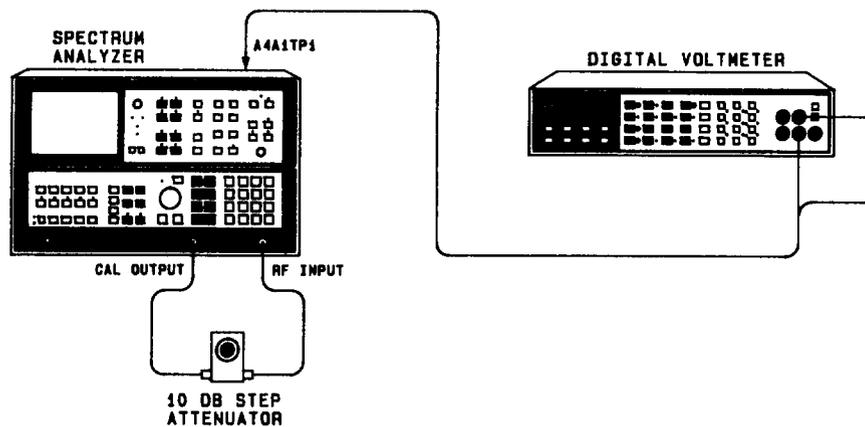

FIGURE 21. VIDEO PROCESSOR ADJUSTMENTS SETUP
1. Position instrument upright as shown in Figure 21. Remove top cover and A3 Digital Storage cover.